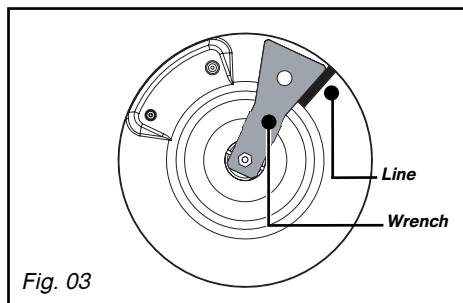

Fig. 03
– Draw a line on the burner plate using a pencil at the place indicated (Fig. 03).